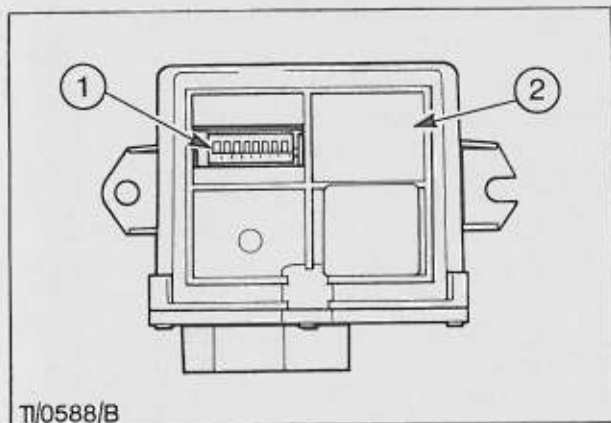

Fig. 5. Adaptor Box Switches
9. Set the eight switches in the adaptor box (see Fig. 5) by using the following formula, together with the tables in Attachment 'A':-
10. Refer to the tables in Attachment 'A' and locate the figure in the left hand column which is nearest to the calculated 'D' result. Set the eight adaptor switches accordingly (see Fig. 5.).